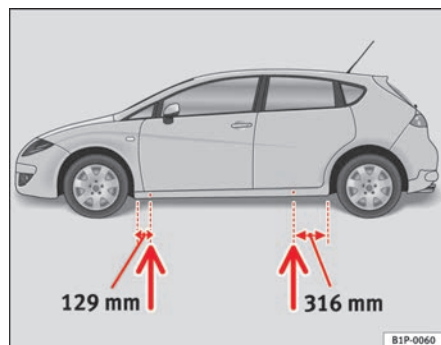

Fig. 156 The jacking points
- Locate the jacking point under the door sill closest to the wheel being changed ⇒ fig. 156.
Recesses at the front and rear of the door sills mark the jacking points ⇒ fig. 156. A position has been made for each wheel. Do not fit the jack anywhere else.